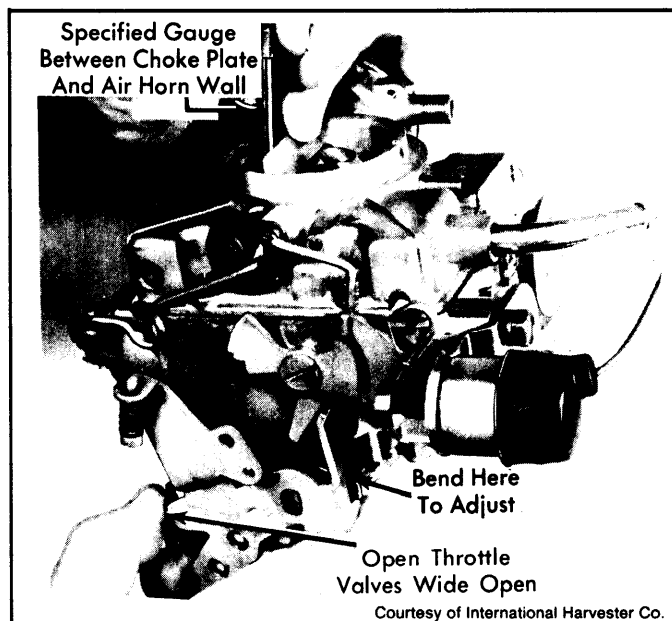

Fig. 4: Adjusting Choke Unloader
1) Open throttle valves wide open. Apply a light closing pressure to choke valve. Measure choke unloader specified clearance between upper edge of choke valve and air horn wall. See Fig. 4.